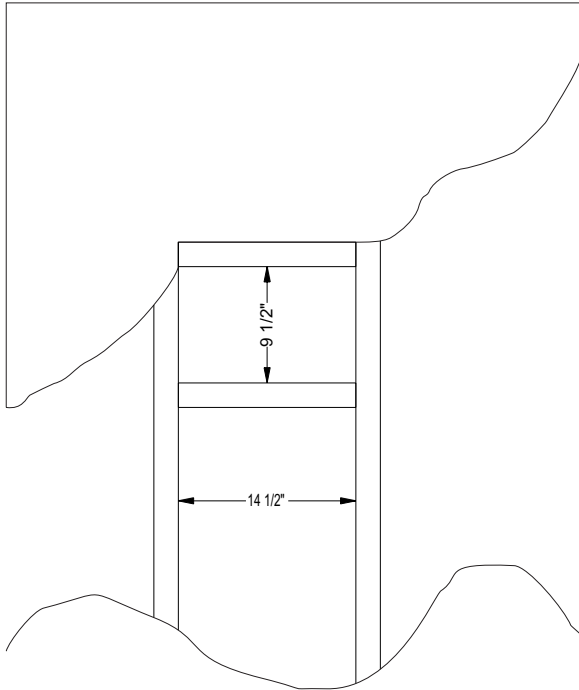

Figure 52
1. Once termination location has been determined build a frame with material that has the same dimensions as the current wall. As shown in **Figure 52**. The box must be 9-1/2 inches tall by 14-1/2 inches wide.